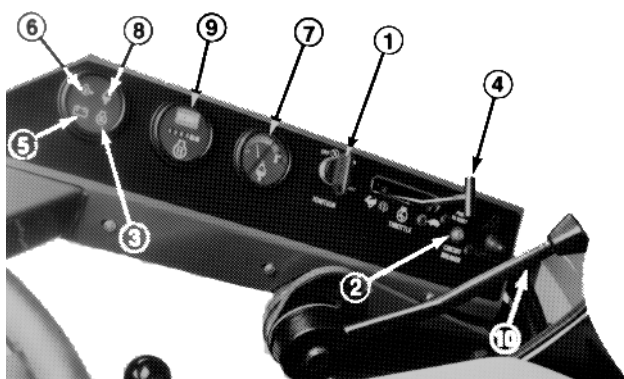

Figure 7
IGNITION KEY SWITCH (Fig. 7)
GLOW PLUG INDICATOR LIGHT (Fig. 7)
THROTTLE CONTROL (Fig. 7)
BATTERY CHARGING INDICATOR (Fig. 7)
ENGINE OIL PRESSURE INDICATOR (Fig. 7)
COOLANT TEMPERATURE GAUGE & INDICATOR (Fig. 7)
HOUR METER (Fig. 7)
CIRCUIT BREAKER (Fig. 7)
5. Immediately turn the ignition key to START (Fig. 7). Release the key immediately when the engine starts and allow it to return to the ON position. Move the throttle control to SLOW.